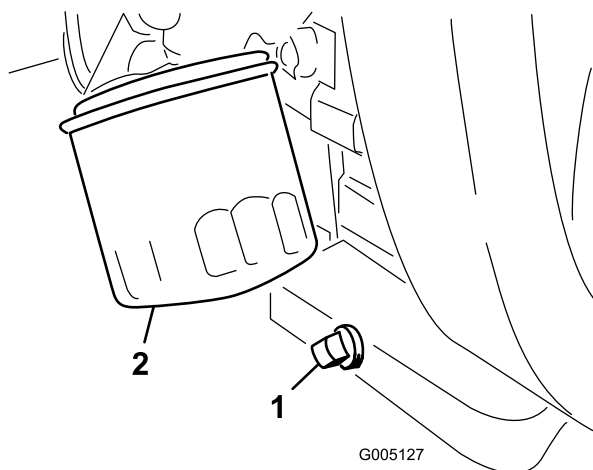

Figure 44
- Remove the drain plug (Figure 44) and let oil flow into a drain pan. When the oil stops, install the drain plug.
- Remove the oil filter (Figure 44). Apply a light coat of clean oil to the new filter gasket.